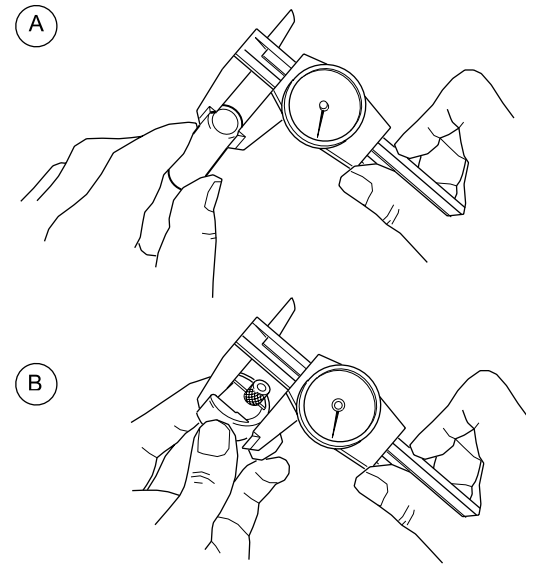

Figure 8 Setting the Arc Gap Gage
1. Measure the outside diameters of the work pieces being welded using a caliper or micrometer. See Figure 8(A). The M200 will calculate the arc gap gage setting automatically when using the Auto Create feature.
3. Adjust the arc gap gage to match the setting from the tables on page 10. See Figure 8(B).